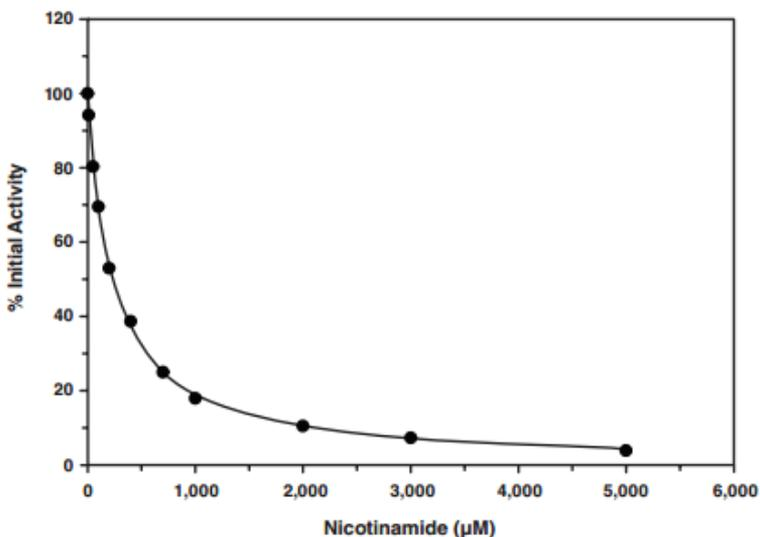

Figure 3. Inhibition of SIRT2 by Nicotinamide ( $IC_{50} = 250 \mu M$ )
4. Graph either the Percent Inhibition or Percent Initial Activity as a function of the inhibitor concentration to determine the IC50 value (concentration at which there was 50% inhibition). An example of SIRT2 inhibition by nicotinamide, a siruin-specific inhibitor, is shown in Figure 3.